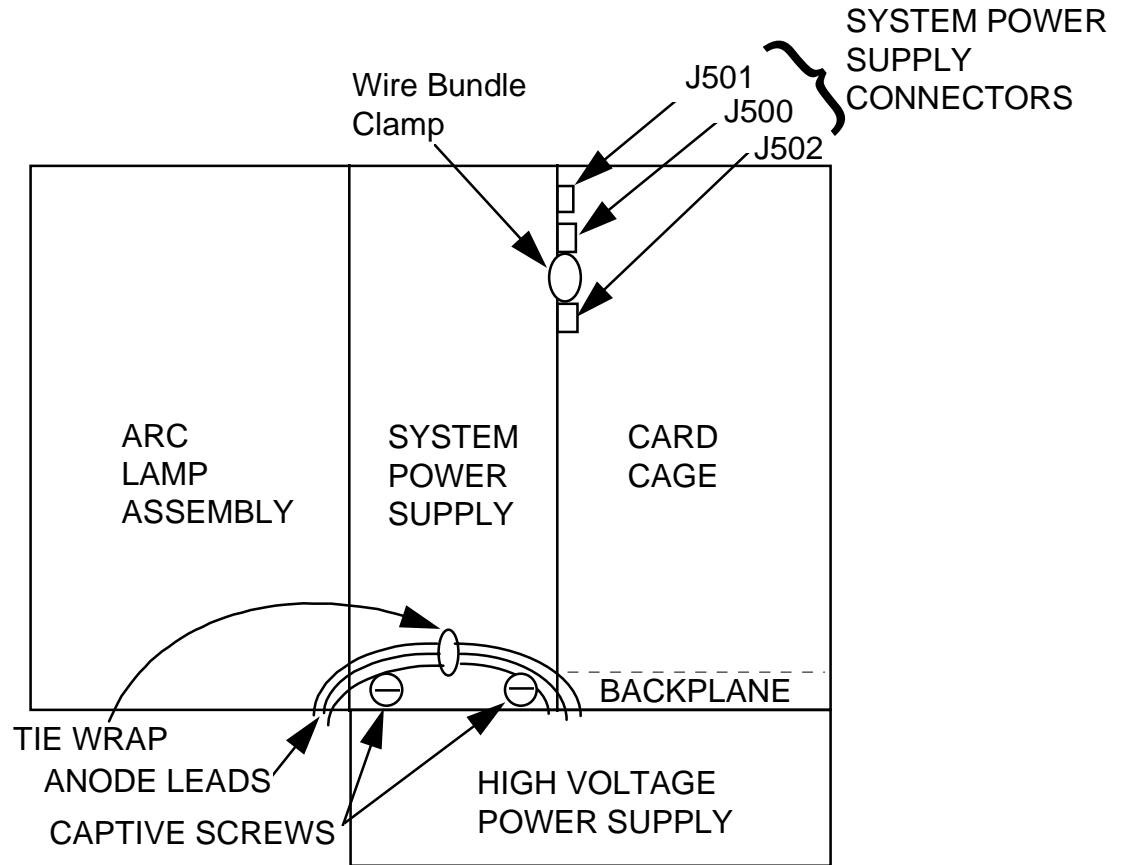

Figure 4-8 System and HV Power Supply (left side of projector)
9. Move to the left side of the power supply and cut the tie wrap securing the HVPS anode leads to the power supply (*see Figure 4-8*).